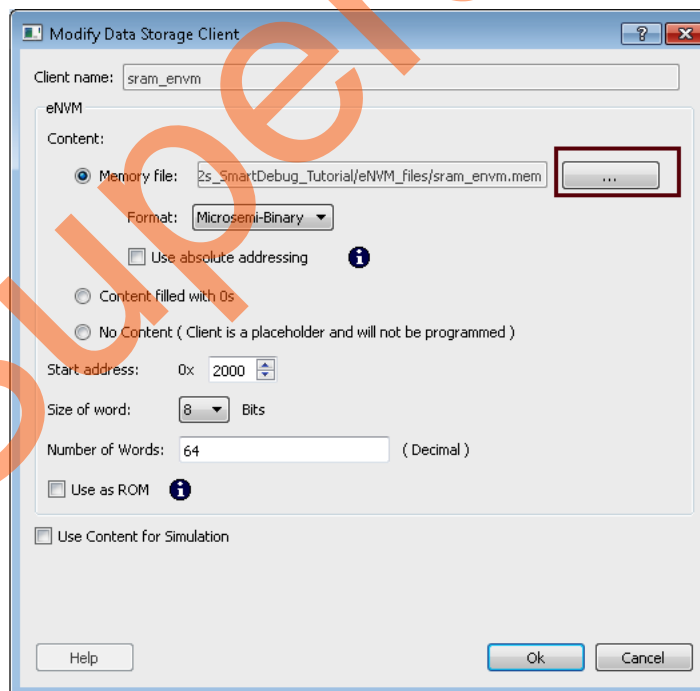

Figure 6 • Modify Data Storage Client Window
c. In the **Modify Data Storage Client** window, browse to the location of the **sram_envm.mem** file located in the **eNVM_files** folder included in the project as shown in Figure 6.